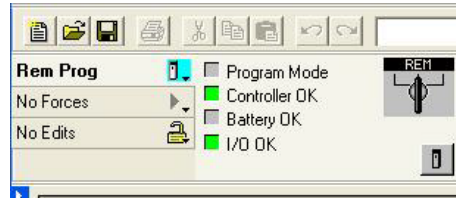

Figure 83 'Go OffLine' 'Go OnLine'
- Left-click on the 'Program' icon (Figure 83) and select 'Go OffLine' from the menu which appears.